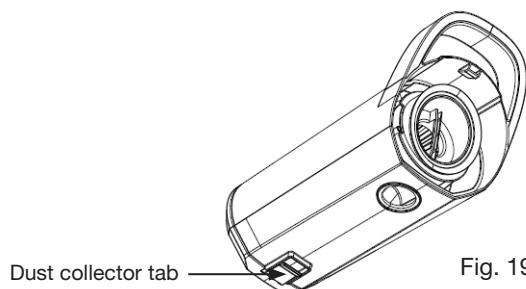

Fig. 19
4. Hold the dust collector over a dustbin and press the tab located on it (Fig. 19) to open it and empty its contents.